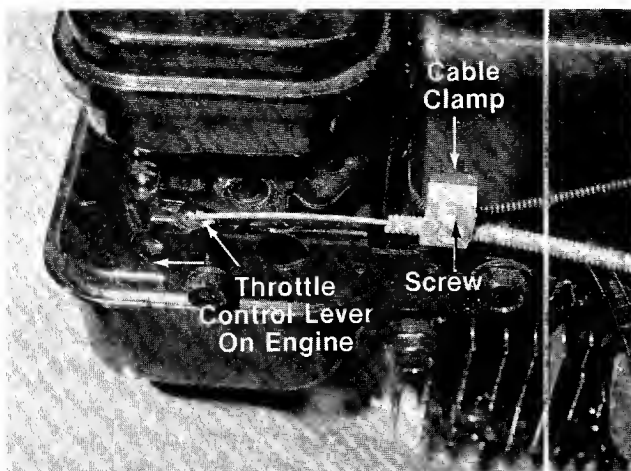

FIGURE 6.
9. Push the throttle control lever on the engine to the full open position (as far toward the outside of the unit as it will go) as shown in figure 6.
11. Loosen (do not remove) the screw on the cable clamp shown in figure 6. Slip the control casing under the clamp. With the throttle lever on the engine still in the full open position, tighten the screw to secure the throttle control cable.